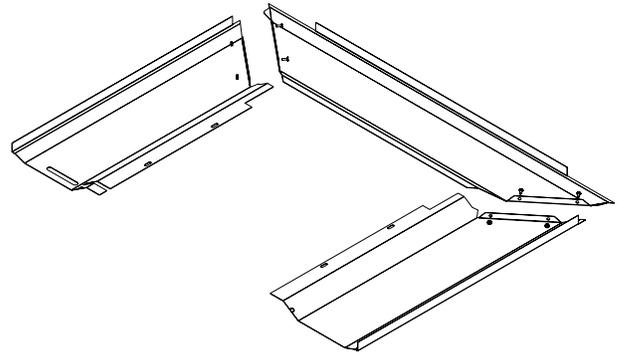

Figure 2.5a
3. Line up the holes of the side and top panels and secure with the screws and nuts. (see Figure 2.5a)